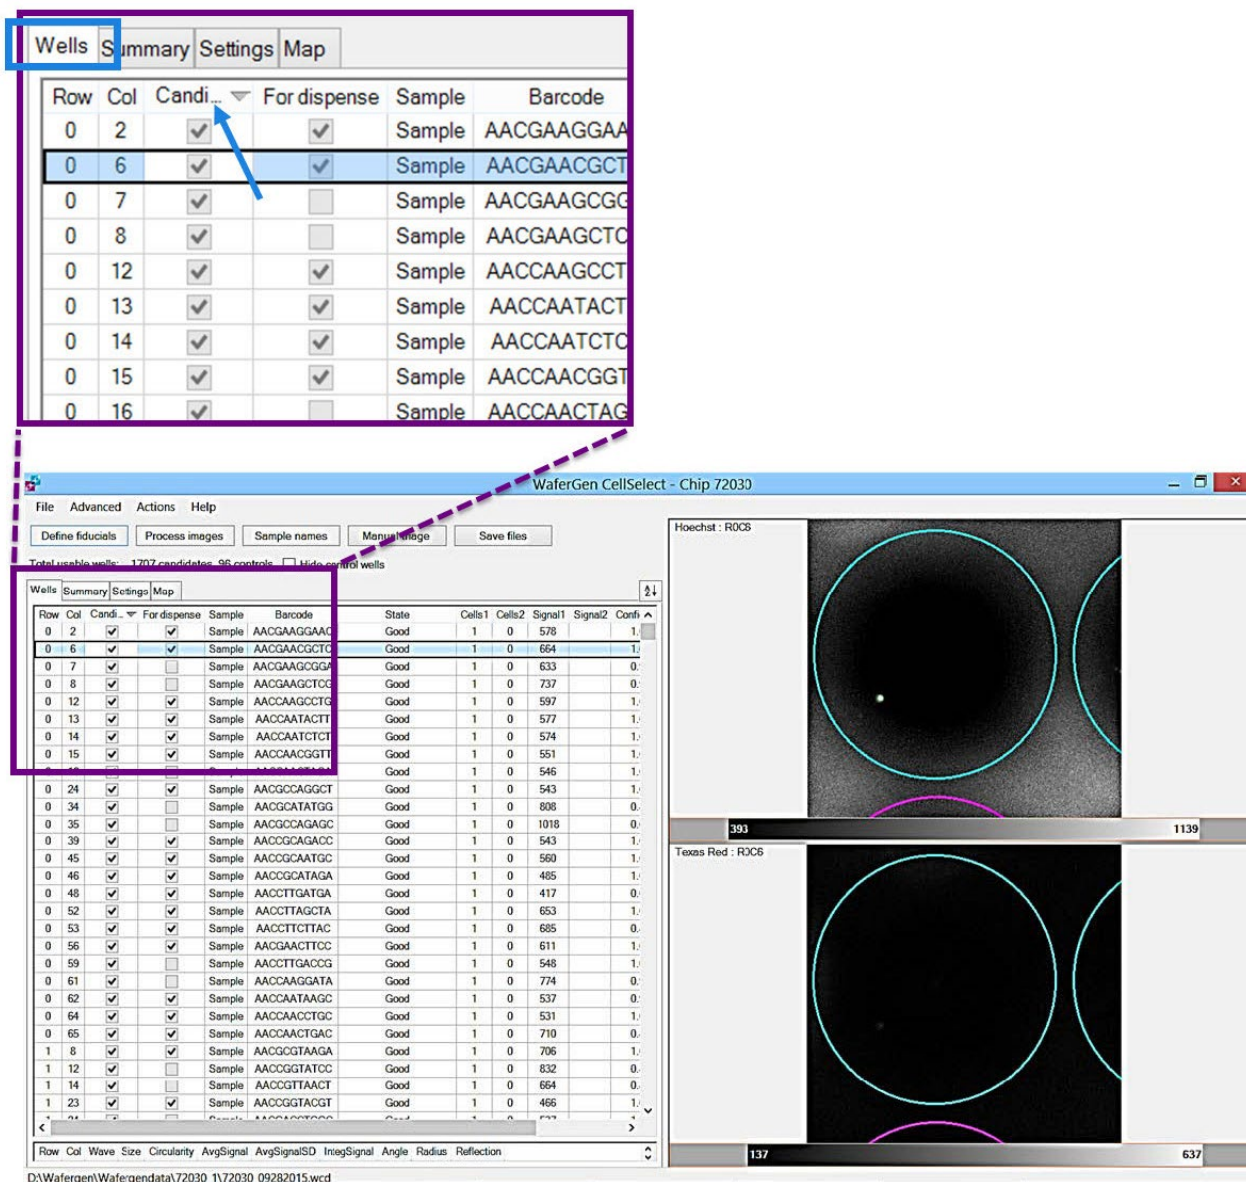

Figure 35. Sorting the “Candidate” column to consolidate all selected nanowells to the top of the table.
- Click the *Wells* tab and sort the nanowell statistics in the “Candidate” column by clicking the row heading (see Figure 35, below). The software will sort and consolidate all selected nanowells (i.e., “candidates”) to the top of the table.
- If desired, manually inspect the selected nanowells. Click any row for close-up views of the selected nanowell in both the Hoechst and Texas Red channels (top and bottom single-well images, respectively, in Figure 35, above).